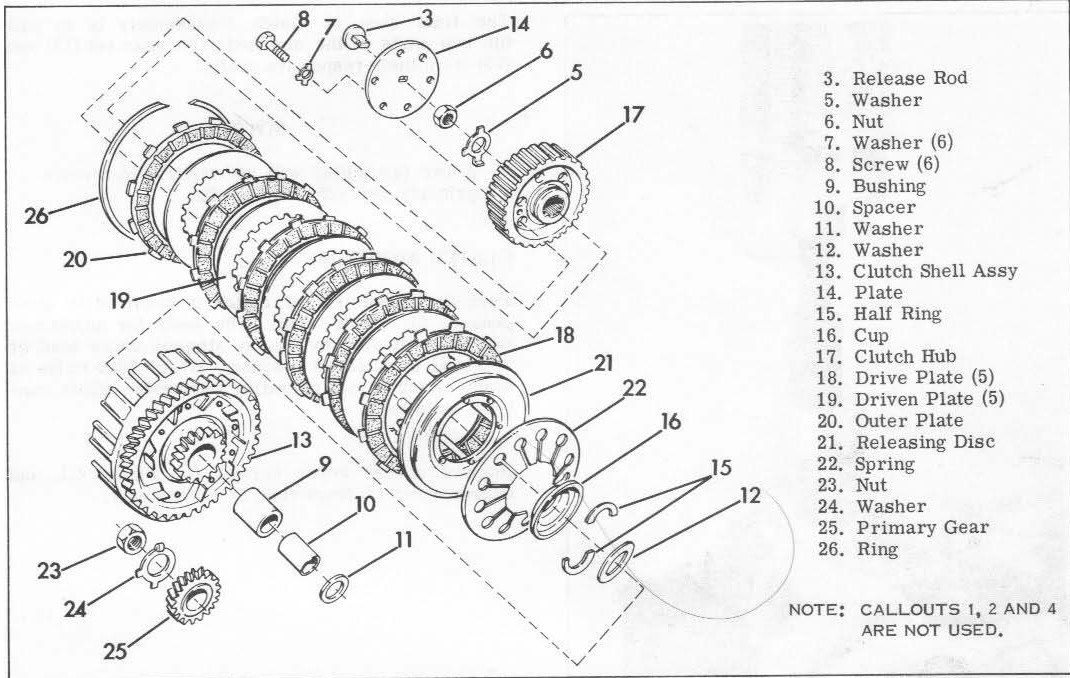

Figure 4.3. Exploded View of Later Clutch
There are two types of clutches in use: an earlier clutch shown in Figure 4.2 and a later clutch shown in Figure 4.3. The paragraphs immediately following cover the first. The second is covered separately in paragraph titled "DISASSEMBLING AND ASSEMBLING LATER CLUTCH," below.
Detach plate (14), Figure 4.3, by removing six screws (8) along with lock tab washers (7).